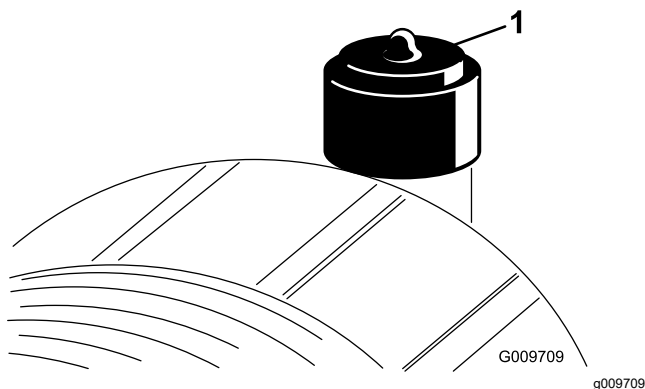

Figure 44
Service the air-cleaner filter only when the service indicator (Figure 44) requires it. Changing the air filter before it is necessary increases the chance of dirt entering the engine when you remove the filter.
2. Reset the indicator (Figure 44) if it shows red.